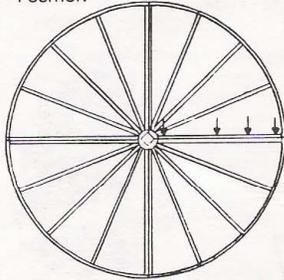

Figure 3.
**STEP 3** Place the two halves together, face down, line up the pre-drilled holes and place the 1/4"-20x2" bolts through the three outermost and one innermost holes. See Figure 3. **TIGHTEN FINGER TIGHT ONLY AT THIS POINT.** Now make sure all the quadrants are properly joined and flush at each assembly point. **THIS IS VERY IMPORTANT TO ASSURE THE CURVE OF THE REFLECTOR IS MAINTAINED AND SUPPORTED CORRECTLY.** Wrench tighten all bolts.